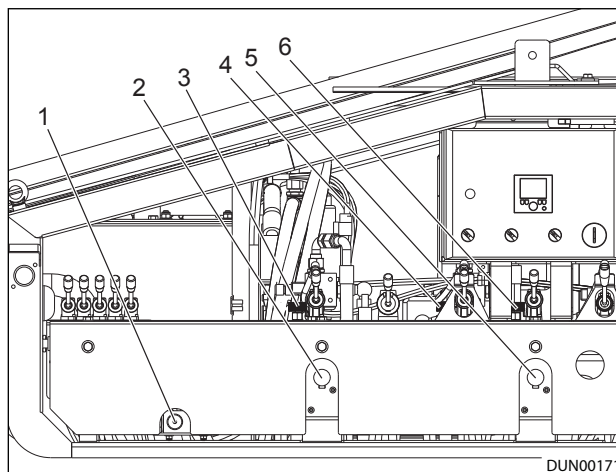

Figure 9.11 - Variable Speed Flow Control Valves
4. Turn the control knob of the variable speed control valve COUNTER CLOCKWISE to run the conveyor at maximum speed, Ref: Figure 9.11.